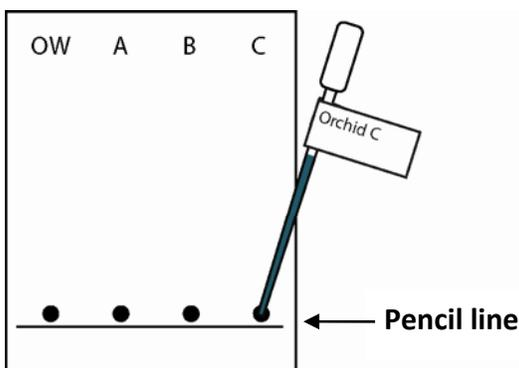

Figure 1
1. Draw a pencil (not pen) line 1 cm (approximately this distance ) from the bottom of a piece of chromatography paper as shown in Figure 1. Use a pencil to label the top edge of the chromatography paper OW, A, B, and C as shown in Figure 1.
2. Use the dropper labeled Orchid World to spot one small drop of the Orchid World flower extract just above the pencil line (see Figure 1).